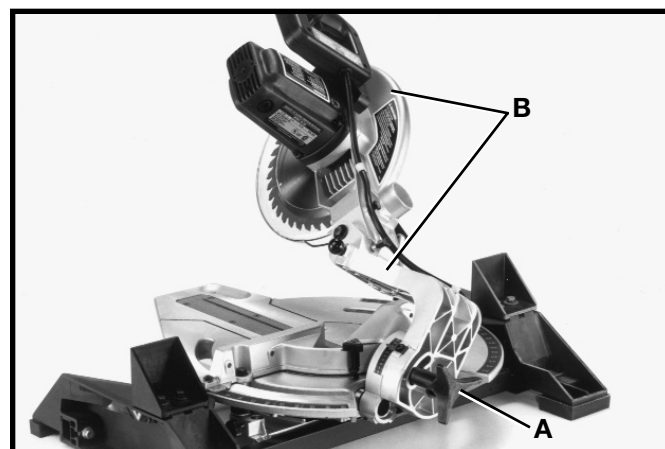

Fig. 41
The cuttinghead of your compound slide saw can be tilted to cut any bevel angle from a 90 degree straight cut-off to a 45 degree left bevel angle by loosening bevel lock knob (A) Fig. 41, tilting cuttinghead (B) to the desired angle, and tightening lock knob (A).